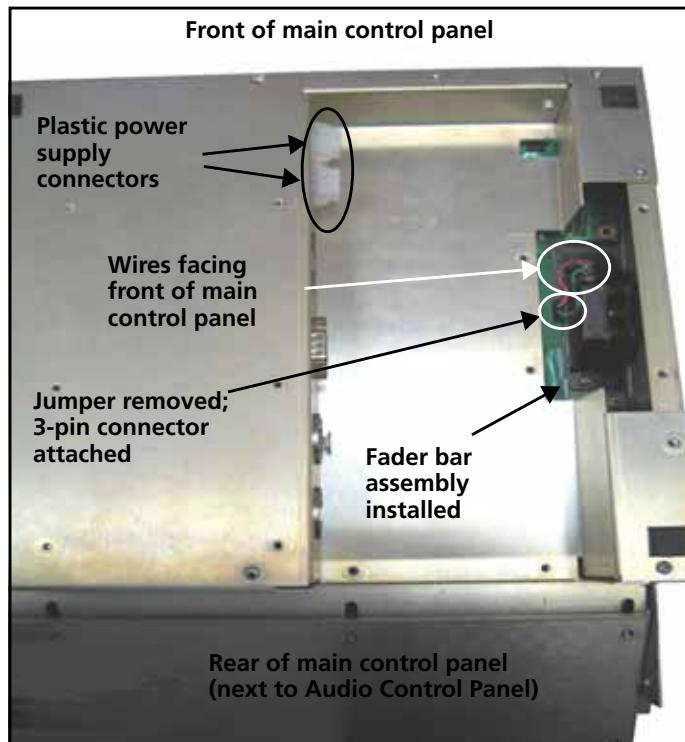

Figure 2-49 Fader Bar Installation and Connection
- 3 Slide the fader bar arm through the slot, so that the assembly fits over the two standoffs (see Figure 2-49).